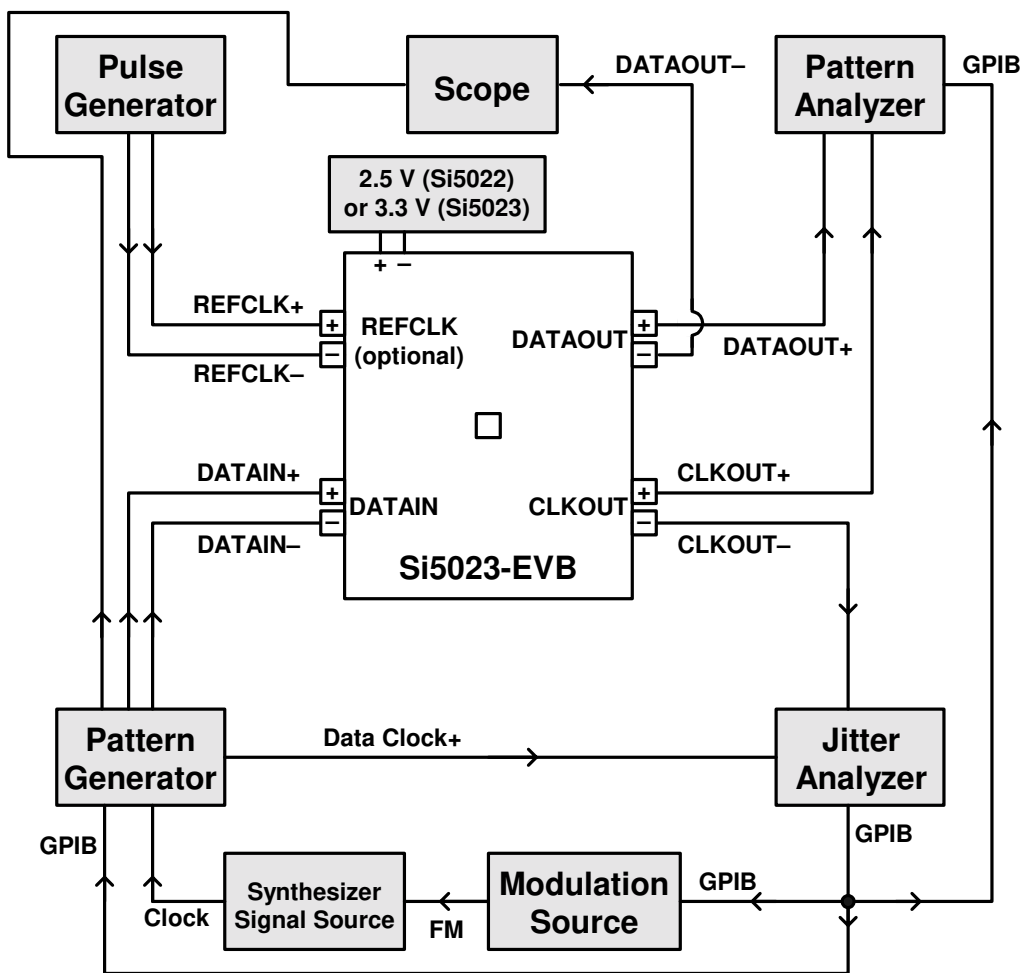

Figure 3. Test Configuration for Jitter Tolerance, Transfer, and Generation
The three critical jitter tests typically performed on a CDR device are jitter transfer, jitter tolerance, and jitter generation. By connecting the Si5023 Evaluation Board as shown in Figure 3, all three measurements can be easily made.
**Jitter Tolerance:** Referring to Figure 3, this test requires a pattern generator, a clock source (synthesizer signal source), a modulation source, a jitter analyzer, a pattern analyzer, and a pulse generator (all unconnected high-speed outputs must be terminated to 50  $\Omega$ ). During this test, the Jitter Analyzer directs the Modulation Source to apply prescribed amounts of jitter to the synthesizer source. This "jitters" the pattern generator timebase which drives the DATAIN ports of the CDR. The Bit-Error-Rate (BER) is monitored on the Pattern Analyzer. The modulation (jitter) frequency and amplitude is recorded when the BER approaches a specified threshold. The Si5023 limiting amplifier can also be examined during this test. Simply lower the amplitude of the incoming data to the minimum value
**Jitter Generation:** Referring to Figure 3, this test requires a pattern generator, a clock source (synthesizer signal source), a jitter analyzer, and a pulse generator (all unconnected high-speed outputs must be terminated to 50 Ω). During this test, there is no modulation of the Data Clock; so, the data that is sent to the CDR is jitter free. The Jitter Analyzer measures the RMS and peak-to-peak jitter on the CDR CLKOUT. Thus, any jitter measured is jitter generated by the CDR.
**Jitter Transfer:** Referring to Figure 3, this test requires a pattern generator, a clock source (synthesizer signal source), a modulation source, a jitter analyzer, and a pulse generator (all unconnected high-speed outputs must be terminated to 50 Ω). During this test, the Jitter Analyzer modulates the data pattern and data clock reference. The modulated data clock reference is compared with the CLKOUT of the CDR. Jitter on CLKOUT relative to the jitter on the data clock reference is plotted versus modulation frequency at predefined jitter amplitudes.